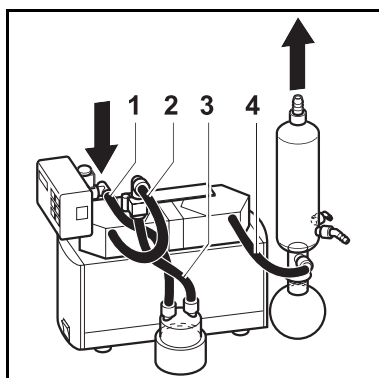

Fig. 17: Tubing system SC
4	Tubes (see fig. 17) ▪ Resistant to the medium employed ▪ Inside diameter 10 mm ▪ Length: (1,4) approx. 220 mm, (2) approx. 300 mm, (3) approx. 150 mm
5. Lay hoses for system (see fig. 17).